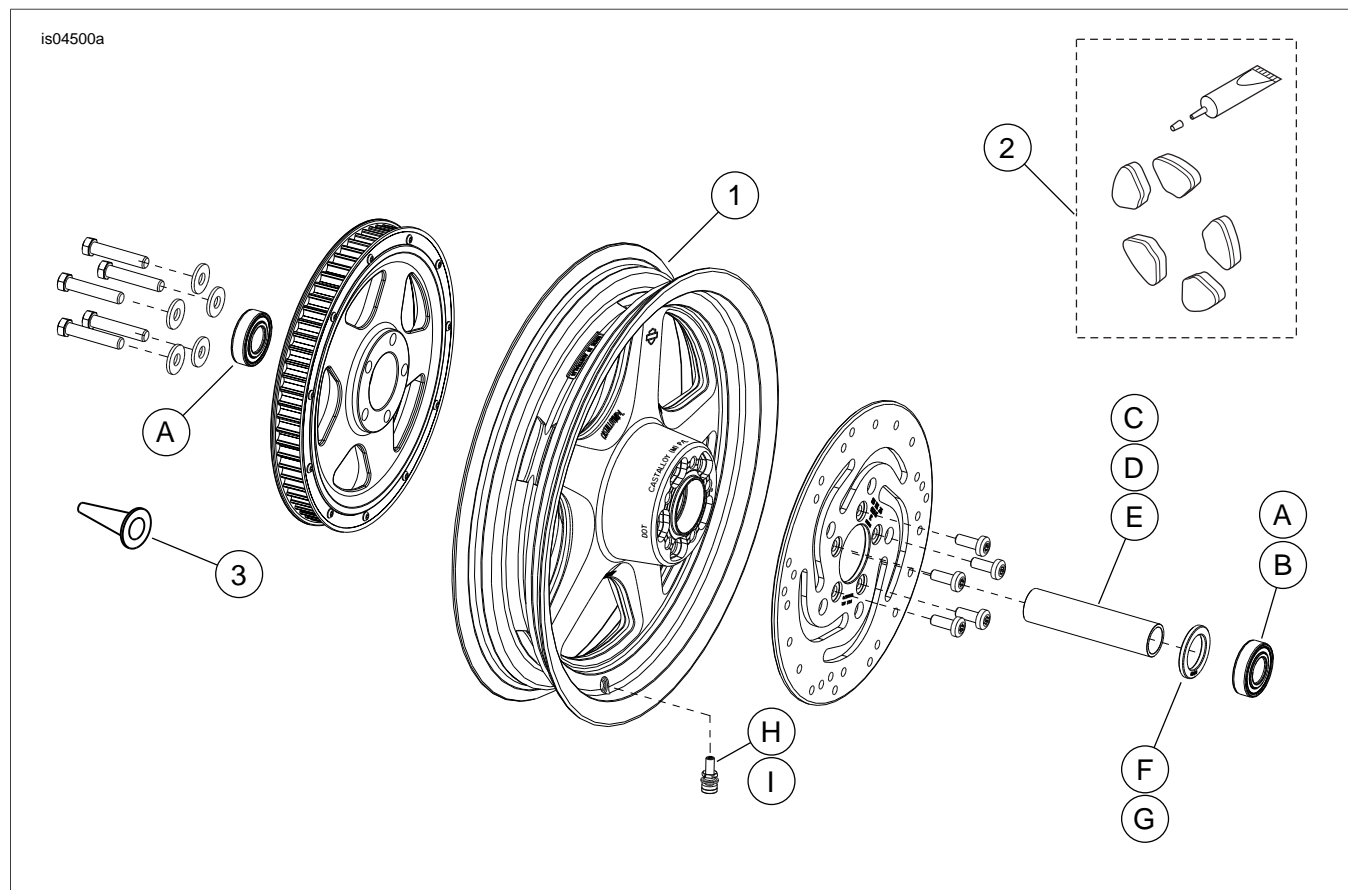

Figure 1. Service Parts: Rear Thunderstar Wheels
See Figure 1 and Service Parts Tables.
2. See Figure 1. Install valve stem assembly (H or I) on wheel. Refer to the service manual.